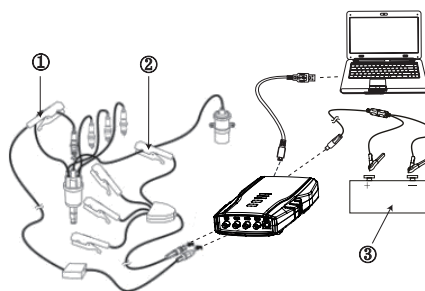
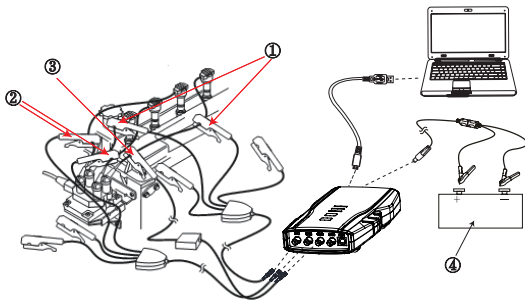

Fig. 52: Equipment connection of traditional ignition
Fig. 53: Equipment connection of double end ignition
Traditional ignition / Direct ignition: Connect BNC end of 1 cylinder signal to CH3 of KT720, use signal clip to clip high voltage line of one cylinder of engine. Please check that there is “This side faces to spark plug” on the signal clip, do not clip reversely; connect BNC end of capacitive pickup to CH1, and then use capacitive pickup to clip high voltage line of each cylinder. As shown Fig.52 for connecting method.
Double end ignition: Connect BNC end of 1 cylinder signal to CH3 of KT720, used for synchronization of cylinder signal, use signal clip to clip high voltage line of one cylinder of engine. Please check that there is “This side faces to spark plug” on the signal clip, do not clip reversely. Connect BNC end of one capacitive pickup to CH1, then connect the other end to positive of high voltage cylinder line. Connect BNC end of the other capacitive pickup to CH2, then connect the other end to negative of high voltage cylinder line. As shown Fig.53 for connecting method.
1. Connect equipment according to Fig.52 or Fig. 53, switch on power supply.